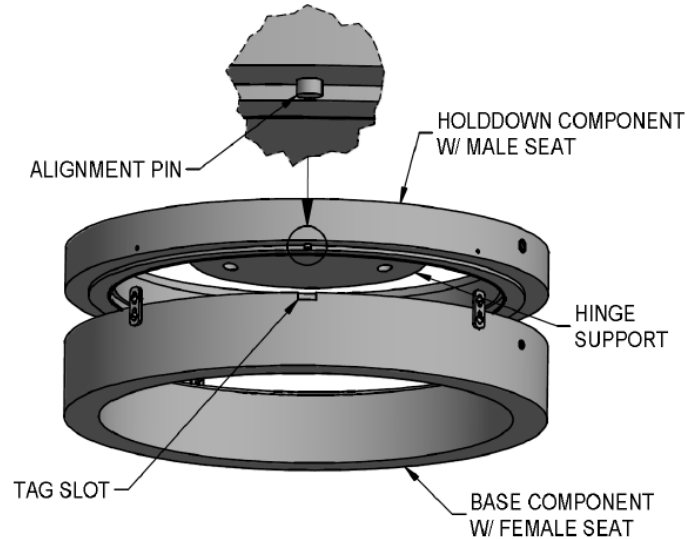
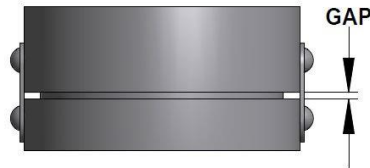

Figure 5 - Alignment pin fitting in tag slot (Atlas sizes 14" and larger)
Figure 7 - Gap Inspection
WARNING: For ATLAS sizes 14" and larger, ensure that the alignment pin in the hold down fits into the tag slot of base (see figure 5) and check the gap (see figure 7). Fragmentation or leaking can occur if this feature is not aligned properly.
10. Check gap between base and hold down. The gap must be the same size on all sides of the assembly. This can be assured by measuring the distance between the hold down and base at various places around the circumference of the assembly. Adjust pre-assembly screws if necessary to provide an even gap (See Figure 7).